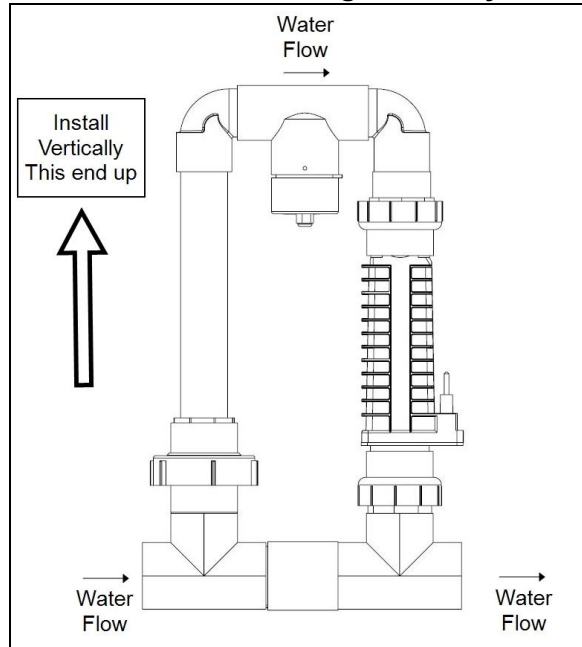

Figure 4
- If using the standard plumbing assembly, it must only be installed in the vertical position as indicated. See **Figure 4**. This orientation prevents hazardous gas buildup in the system, should the flow switch fail to detect insufficient flow. The direction of the water flow through the manifold must be as indicated for the system to operate properly.